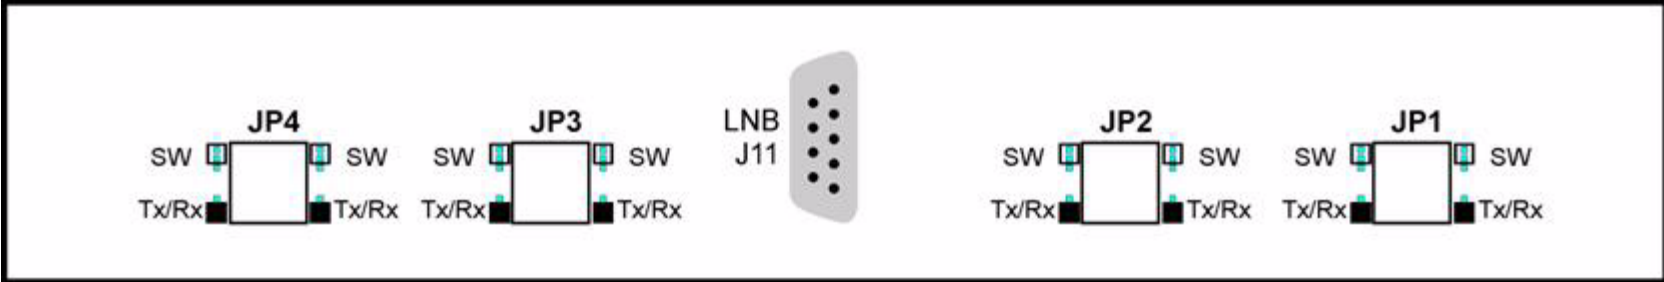

Figure 8 Jumper Installation: Tx and Rx only
1. Place the 7225HR Receiver in any of the 7180M Chassis, unless a 2040 RF Switch is installed. (See **Figure 8 7180M Chassis Rear View** on page 12.).